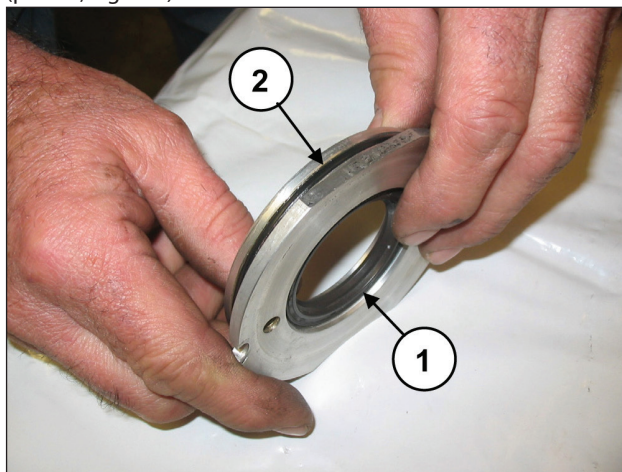

Fig. 165
Replace the oil seal (pos. ①, Fig. 165) and the external O-ring (pos. ②, Fig. 165).